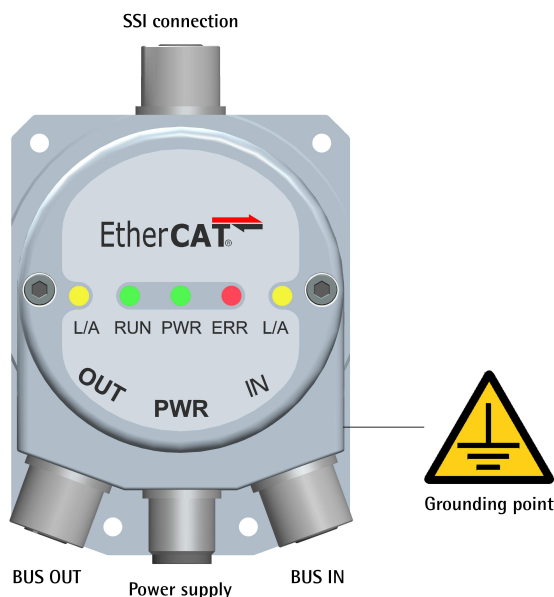

Figure 4
4.2 SSI connector (Figure 4)
4.3 EtherCAT interface and power supply connectors (Figure 4)
device. We suggest using the ground point provided in the cap (see Figure 4, use 1 TCEI M3 x 6 cylindrical head screw with 2 tooth lock washers).